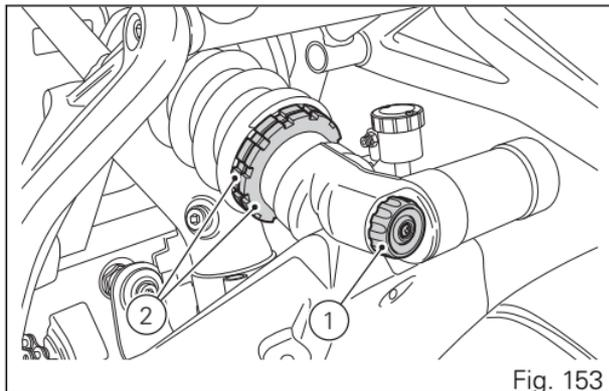

Fig. 153
- compression: loosen adjuster (1, Fig. 153) by 12 clicks (from fully closed position);